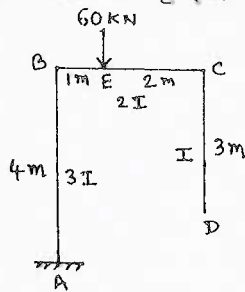

Fig.Q3(b)
- b. Compute the vertical displacement at the free end D. of the frame by strain energy method. If $EI = 2 \times 10^4 \text{ kNm}^2$, the frame is as shown in Fig.Q3(b).